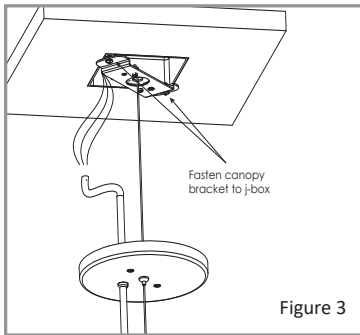

Figure 3
- Use 8-32 screws (x2; usually provided with j-box) to fasten canopy bracket to previously wired and connected 4" x 4" j-box. (Figure 3)